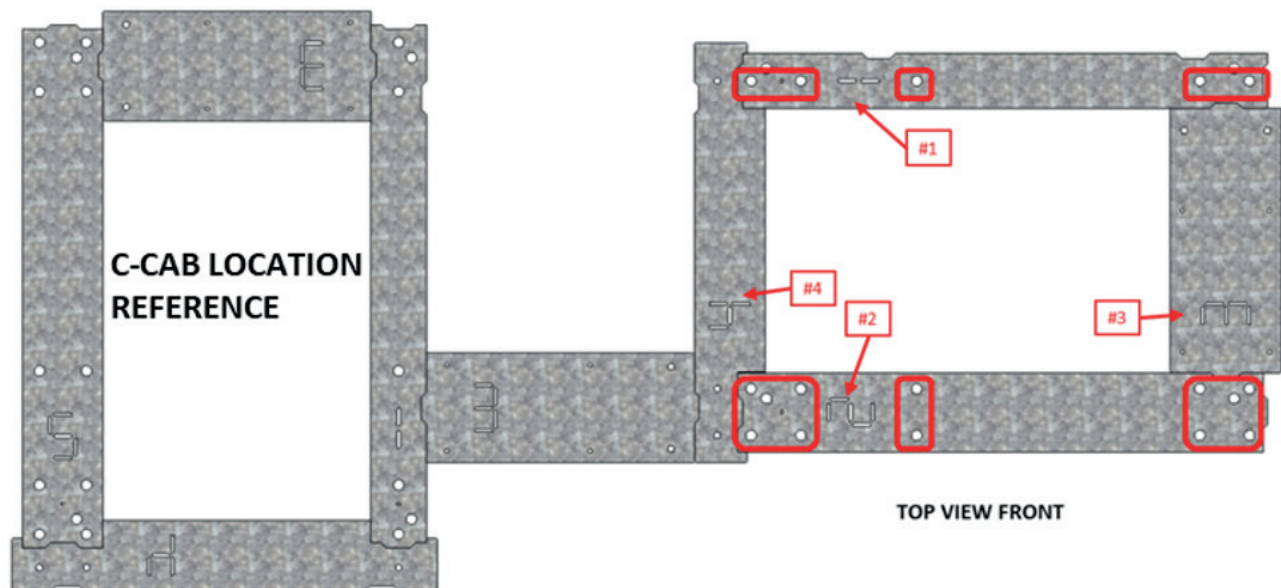

Figure 56. 1st B-Cab XXL Drilling Template Location
3. **Position the 1st B-Cab XXL Template:** Use the C-Cab XXL template as a reference to position the B-Cab XXL template. The template assembly is represented in Figure 56.